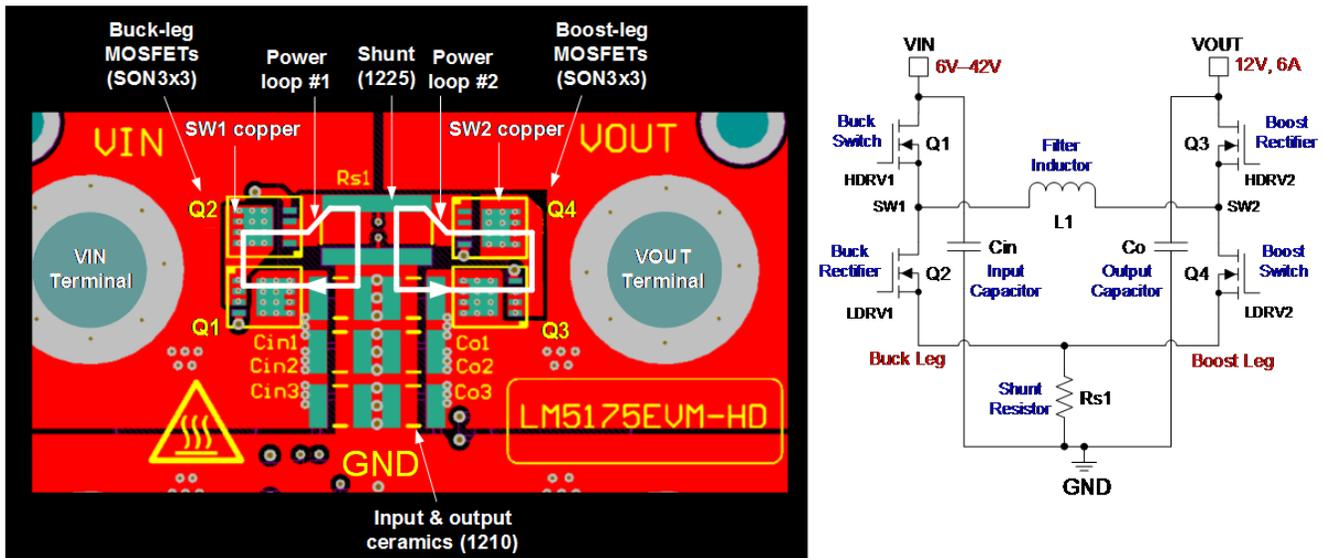

Figure 1. Four-switch Buck-boost Converter Power Stage Layout and Schematic
The most visible example of DC/DC converter printed circuit board (PCB) layout for high density relates to power stage component placement and routing. Careful layout can coincide with better switching performance, lower component temperatures and reduced electromagnetic interference (EMI) signatures. Consider the power stage layout and schematic in Figure 1.
in Figure 1, the inductor and electrolytics are purposely located on the bottom side of the multilayer PCB, because they would impede heat transfer if placed on the top.
- **EMI performance.** EMI regulatory compliance is a key milestone in a product's design cycle. A high-density design typically has little space available for EMI filtering. However, tight layout improves radiated emissions as well as immunity to incoming disturbances. Two essential steps are to minimize loop areas containing high di/dt currents (see the white current paths in Figure 1) and reduce surface areas with high dv/dt voltages (see the SW1 and SW2 copper polygons in Figure 1).